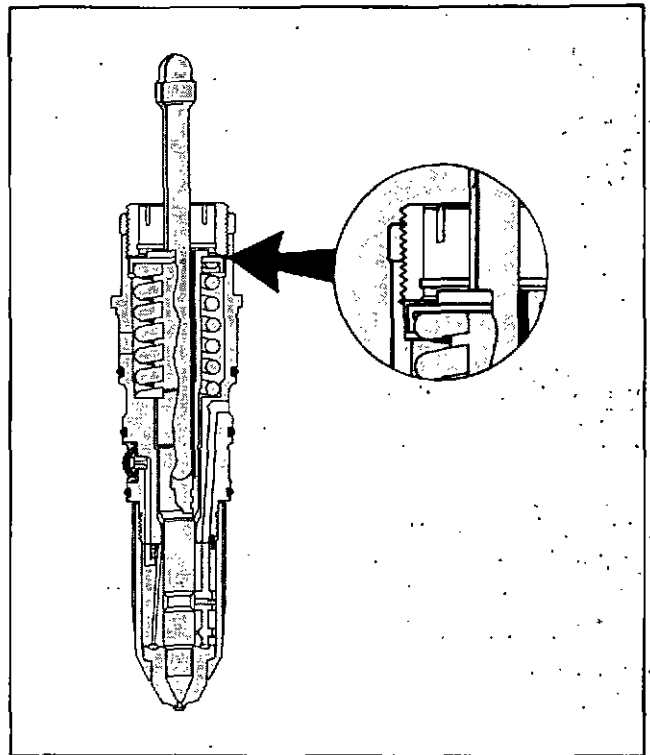

Fig. 14-75. Top-Stop Injector — The Washer Against The Stop.
3. Loosen adjusting screw until the spring washer is against the stop of the injector, Fig. 14-75.